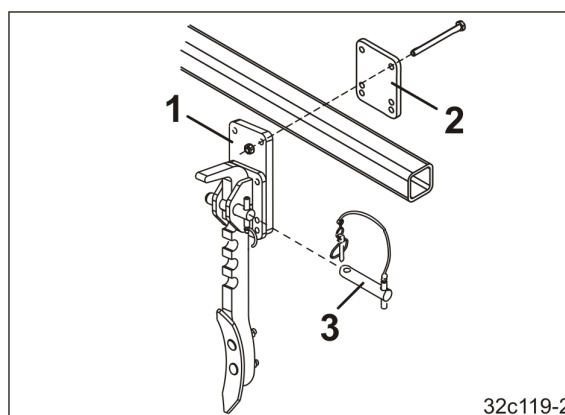

Fig. 91
- 19.1 Screw the wheel maker eradicator holder (Fig. 91/1) to the three-point extension frame using the clamping plate (Fig. 91/2).
- 19.2 Pin the wheel mark eradicator right at the top with the positioning bolt (Fig. 91/3) and secure with a lynch pin.